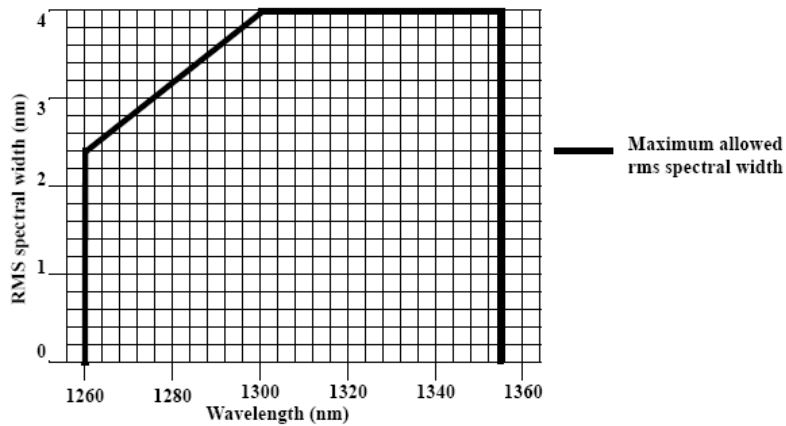

Figure 1. 10GBASE-LRM Transmitter spectral limits
1. Refer to the spectral limits curve in Figure 1.